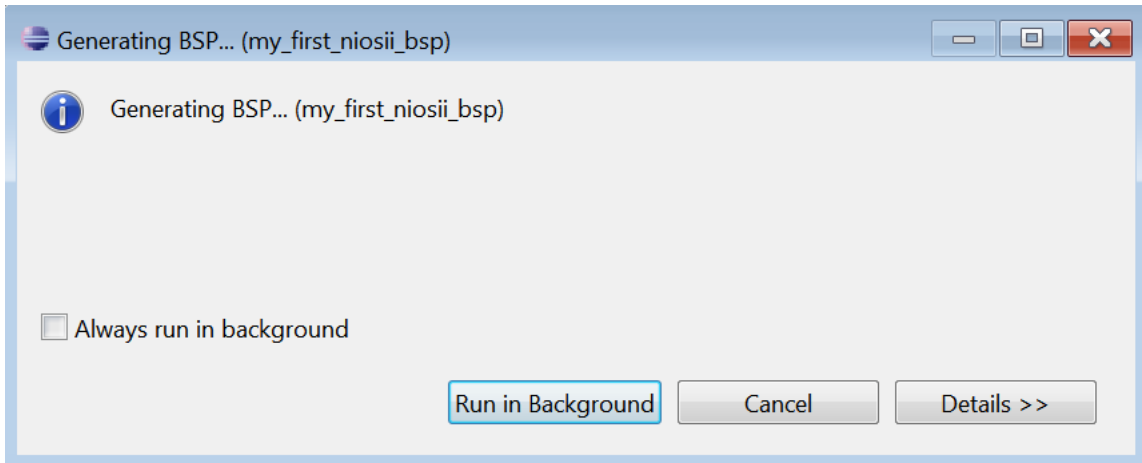

Figure 3-7 Generate BSP
1. Right-click **my_first_niosii_bsp** in Nios II SBT for Eclipse and choose **Nios II ->Generate BSP**, as shown in **Figure 3-7**.